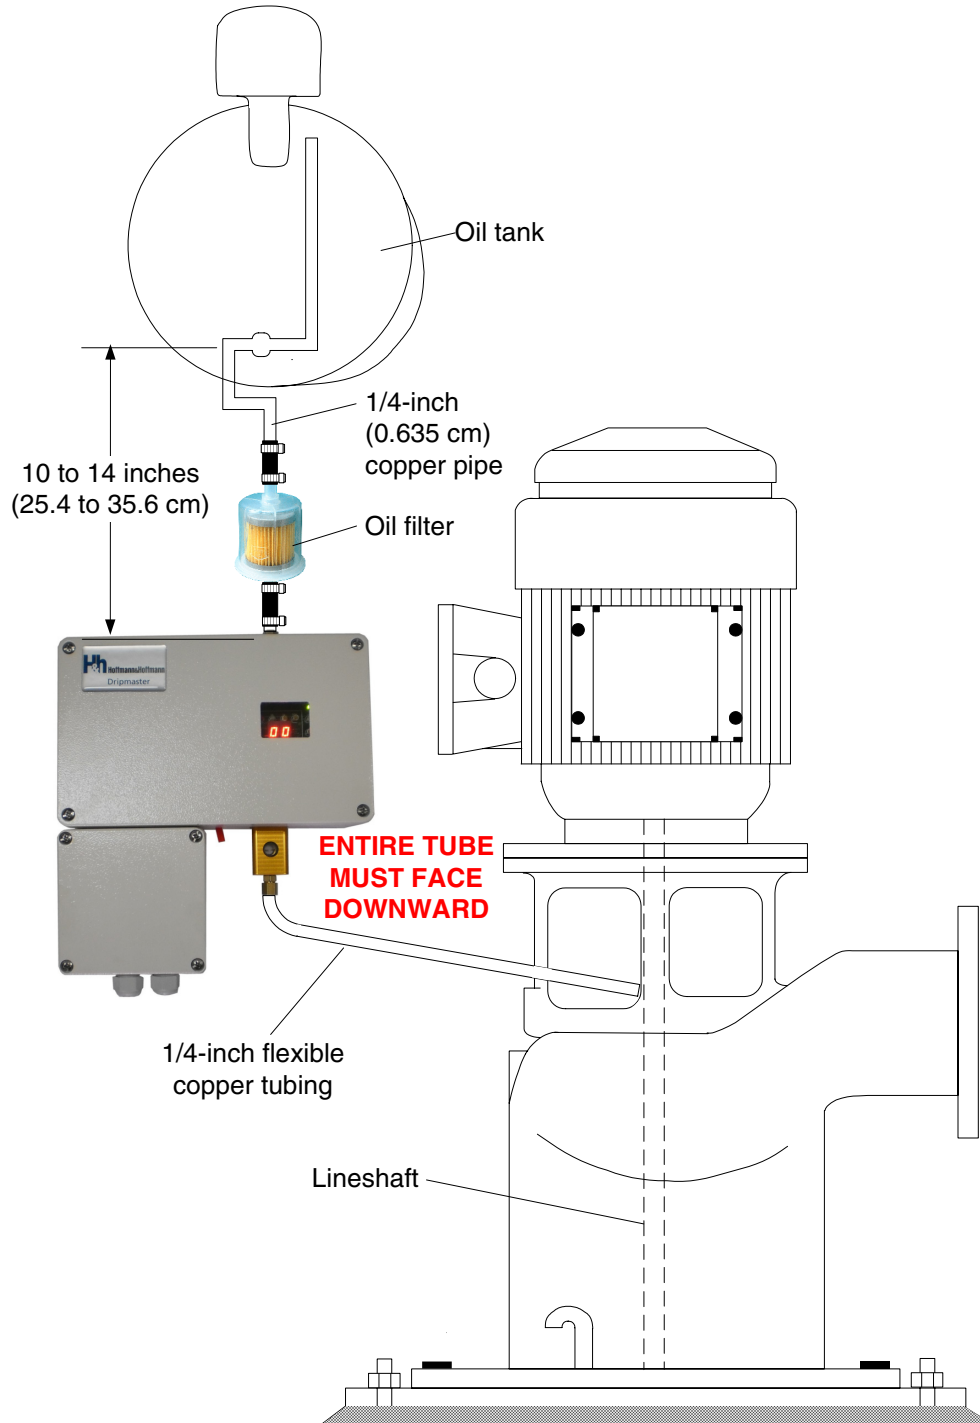
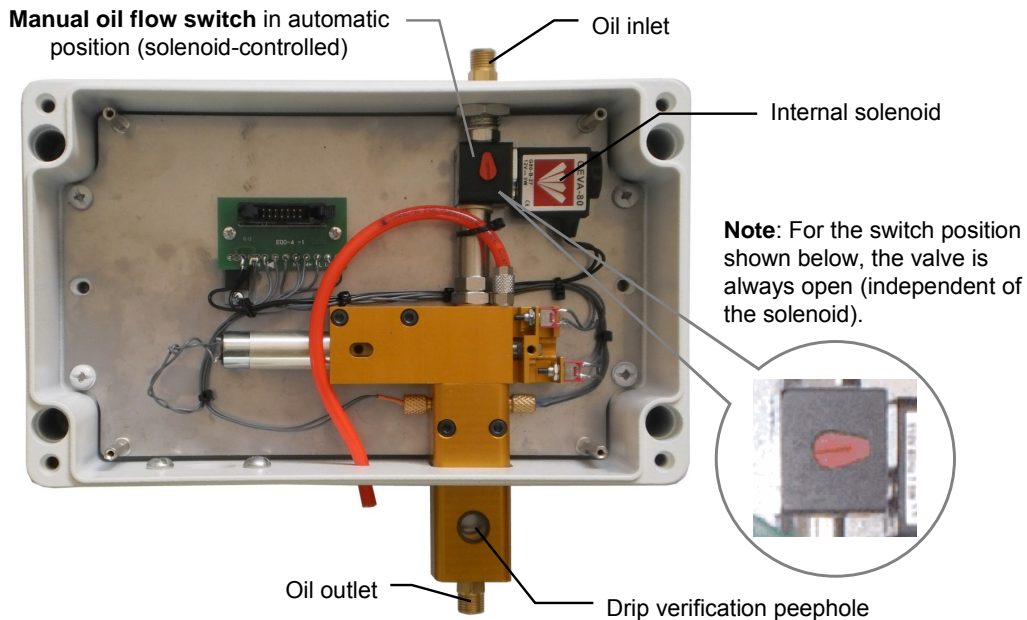

Figure 2: Installation requirements
Figure 8: Dripmaster EDD-4SH Needle Valve Assembly
Important: The relative spacing between the oil tank, the Dripmaster, and the line-shaft inlet should be according to Figure 2. In order to maintain minimal oil pressure on the needle valve (especially when the oil tank is almost empty), the oil inlet should be in the range of 10 to 14 inches below the oil tank.
6. Connect the oil filter (supplied) to the oil tank (Figure 2).
7. Connect the Dripmaster oil outlet (Figure 8 on page 19, and Figure 2) to the well shaft inlet by means of flexible ¼-inch copper tubing.
Use the Drip verification peephole (see Figure 8 below) to check the drip rate.